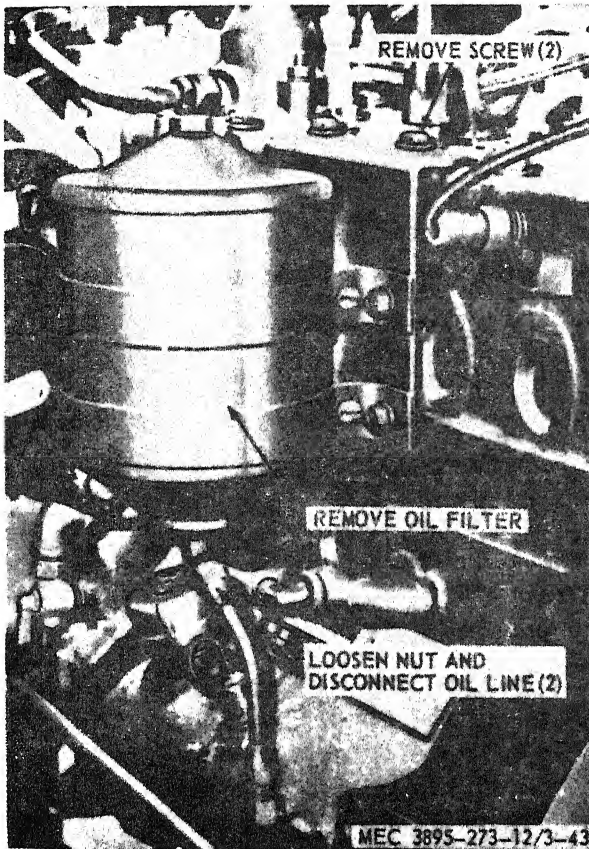

Figure 3-40. Oil filter, removal and installation.
a. *Removal.* Remove the oil filter, lines, and fittings as instructed on figure 3-40.
- (3) Install the straps (8) on the body (7) and secure with the screws (6), washers (29), and nuts (30).
- (4) Position the bracket (33) on the body (7) and secure with the screws (32), washers (28 and 31), and nuts (27).
*e. Installation.* Install the oil filter, lines, and fittings in reverse of instructions on figure 3-40.